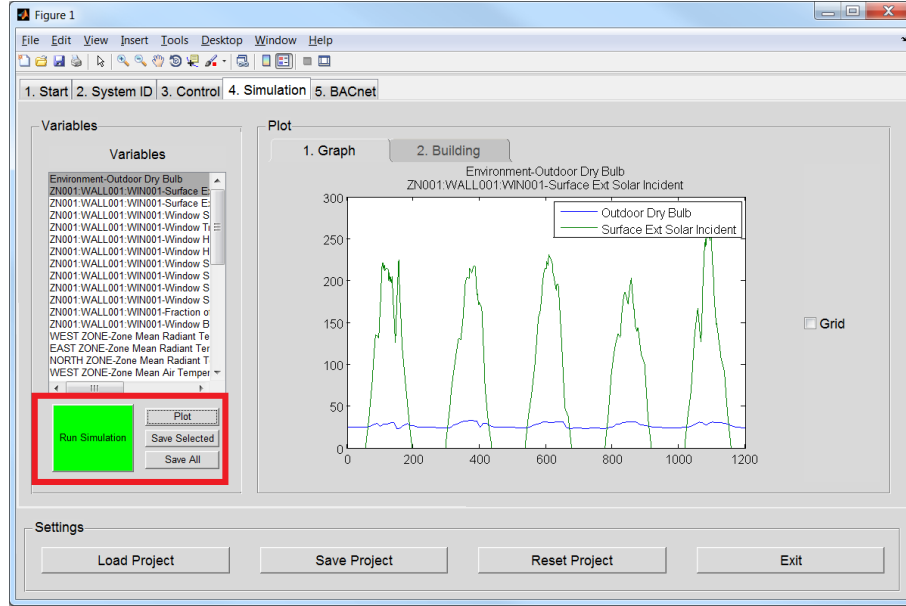

Figure 12: Plot and analyze simulation results of EnergyPlus.
3. After the co-simulation has finished, MLE+ extracts and parses all output variables generated by EnergyPlus, then lists them in a listbox (see Figure 12). Select one or multiple variables, then click the button **Plot** to display them on the screen.